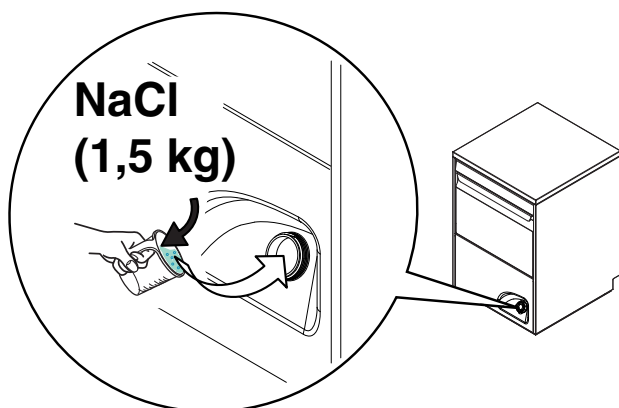

Figure 29
- Pour approx. 1.5 kg of coarse salt [NaCl] in container "A" (an amount sufficient to fill the salt container up to the rim) using the special funnel supplied (Figure 29).